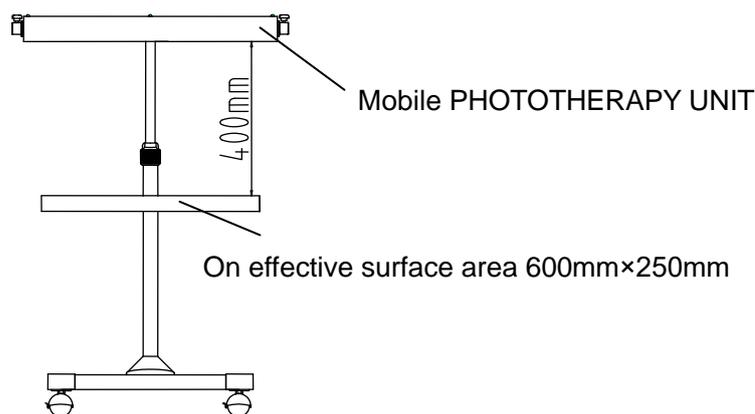

FIGURE 7
Through loose the lock knob in figure 1, and adjust the angle of lamp module to the parallel position above the effective surface area in figure 7, and then adjust the height of mobile PHOTOTHERAPY UNIT by loose the clip nut anticlockwise in figure 1 until the distance between the lamp module and the effective surface area is 40cm.
7.2.1 Put the naked patient on the effective surface area in figure 7. If it is Incubator Mounted PHOTOTHERAPY UNIT, please put the patient on the mattress. (Note: The whole surface of mattress for infant incubator is the effective surface area)